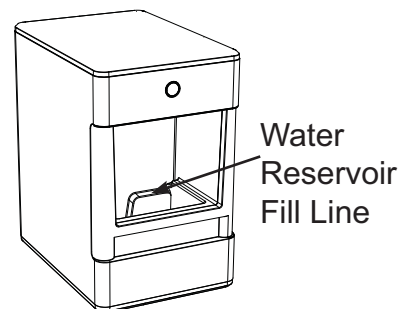

Figure 4
7. Pour solution into water reservoir. See figure 4.